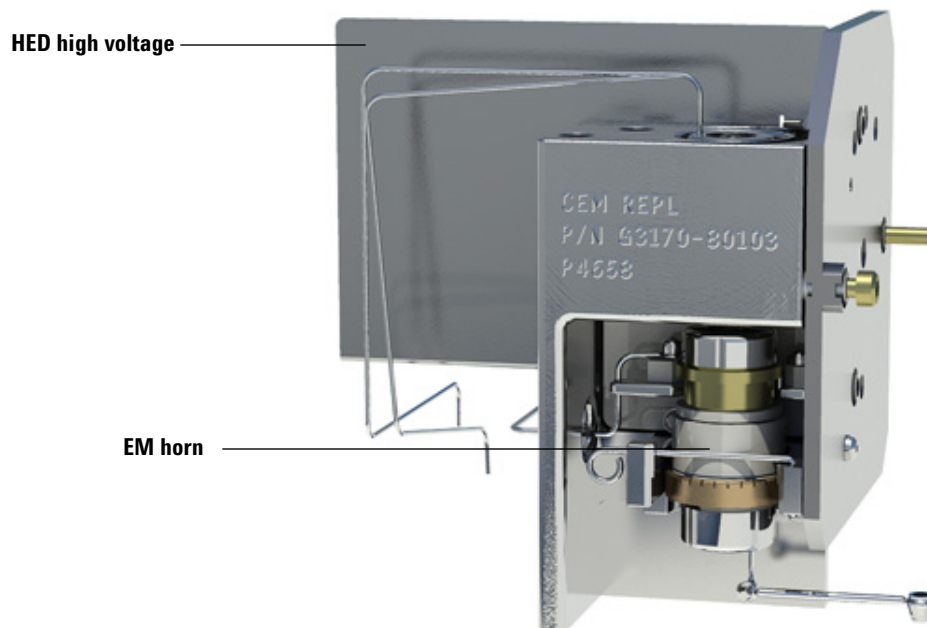

Figure 41 The detector
The detector (See Figure 41 on page 190) in the MSD analyzer is a high energy conversion dynode (HED) coupled to an electron multiplier (EM). The detector is located at the exit end of the quadrupole mass filter. It receives the ions that have passed through the mass filter. The detector generates an electronic signal proportional to the number of ions striking it. The detector has three main components: the detector ion focus, the HED, and the EM horn.